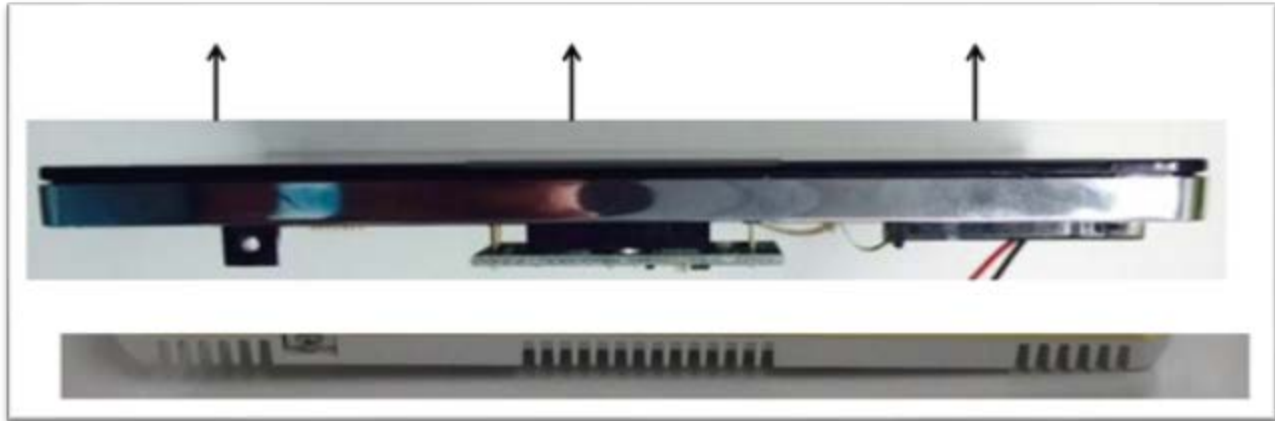

Figure 27: Lift Up and Off
Step 4 Lift the front plate up and off of the back plate as shown in Figure 27.